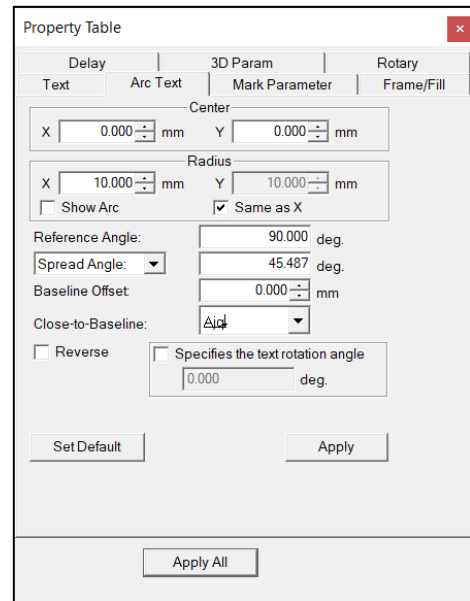

Fig. 3.3.21
**Show Arc:** Show the arc path, see Fig.3.3.21.